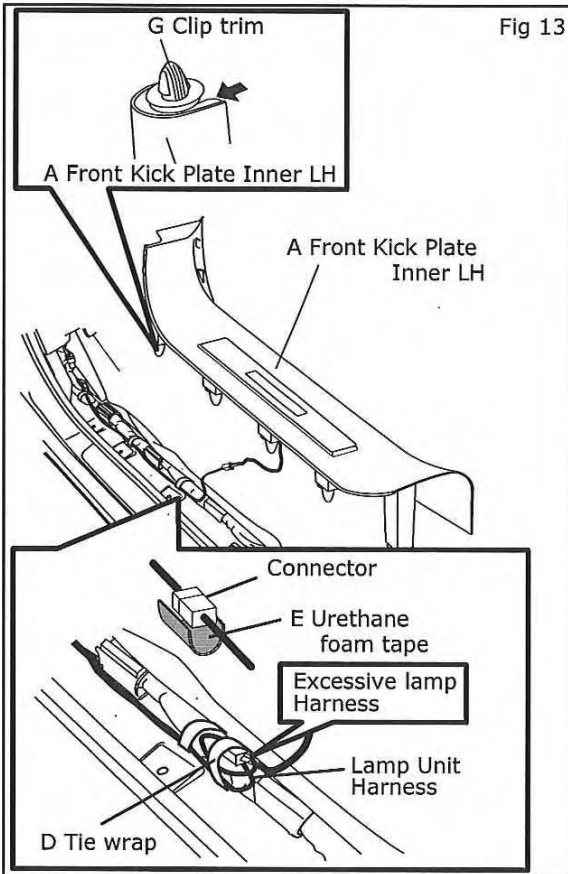

Fig 13
- 1) Insert five clips in front kick plate inner LH (A).
- 2) Connect the connectors and apply the urethane foam tape (E) on the connecting section shown in fig 13.
- 3) Attach excessive lamp harness to the vehicle harness with a tie wrap (D) shown in Fig 13.